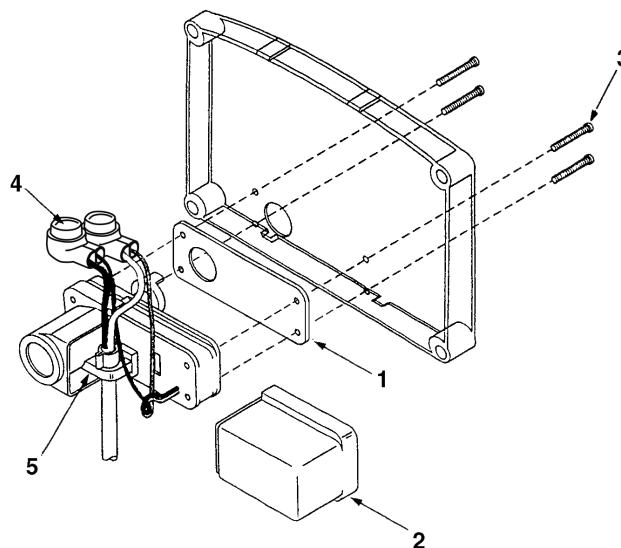

Figure 3: Mounting detail, see "Required Material" on page 3
NOTE: Numbers in the first column correspond to the parts shown in Figure 3 on page 4.
2. Mount the Gas-RT on the index cover using the TORX screws provided and reinstall the index cover on the meter. Operate the meter and observe the Gas-RT to ensure that no binding is occurring. See Figure 3.